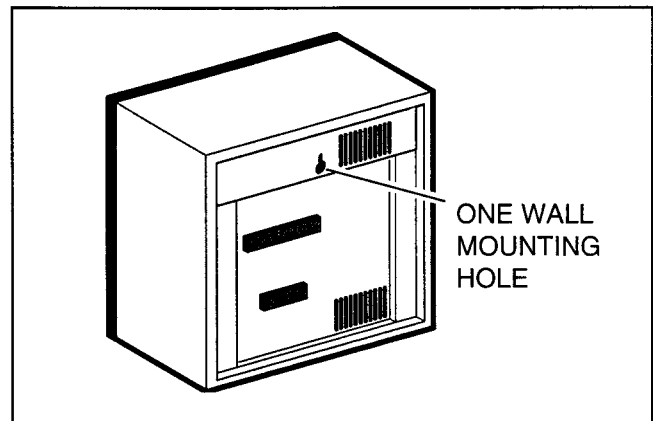

FIGURE 7-14
4.27 HESB Wall Mounting Instructions. The HESB can be mounted to a wall or other vertical surface. Use the following instruction to mount the HESB (see Figure 7-14).